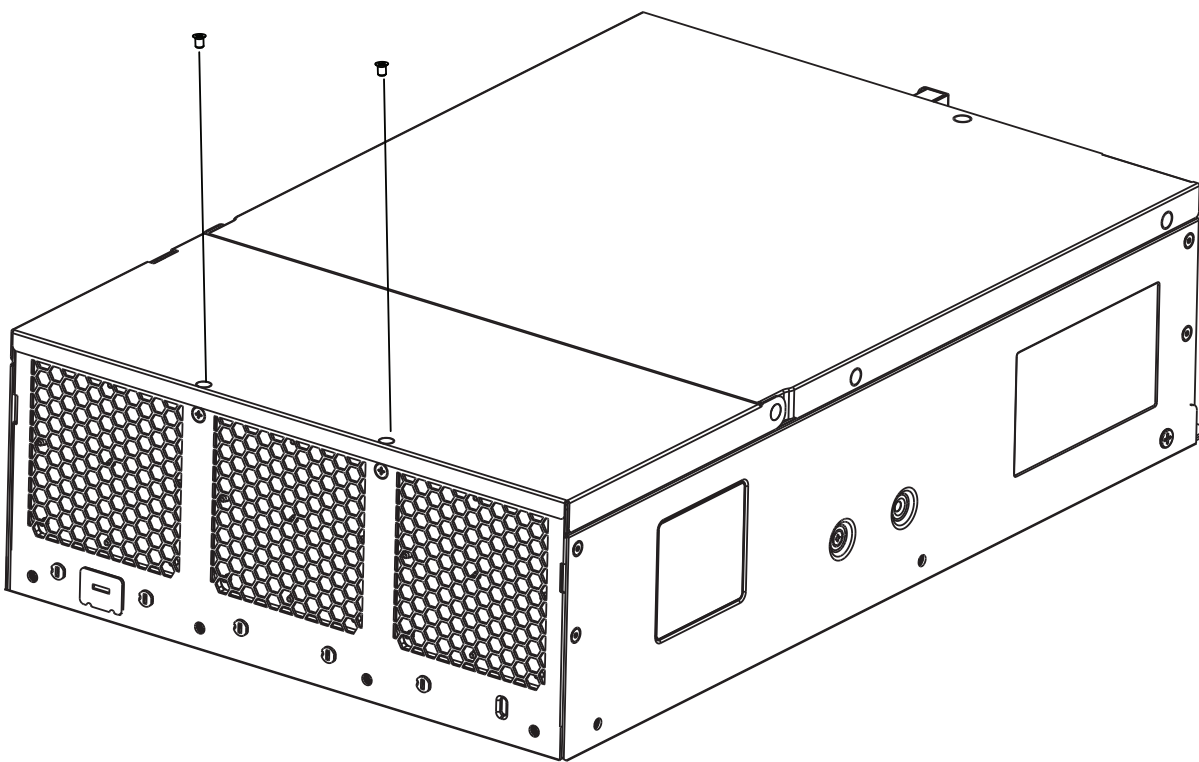

Figure 2-1. Removing Fan Cover Screws
2. Remove the two screws on the fan cover. See Figure 2-1.